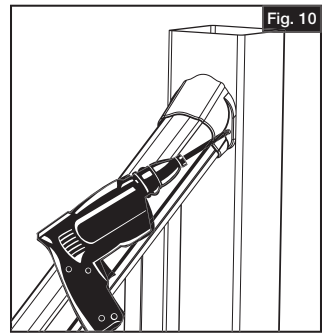

Fig. 10
- Open the top rail bracket cover to allow it to wrap around the top rail (Fig. 10). While open, make sure the "tab" fits behind the rail and against the post (Fig. 11).
Drive screws through brackets into post (Fig. 10). For top rail, use #10 x 2" self-tapping square drive screws (two per bracket); for bottom rail, use #10 x $1\frac{1}{4}$ " self-tapping square drive screws (four per bracket).